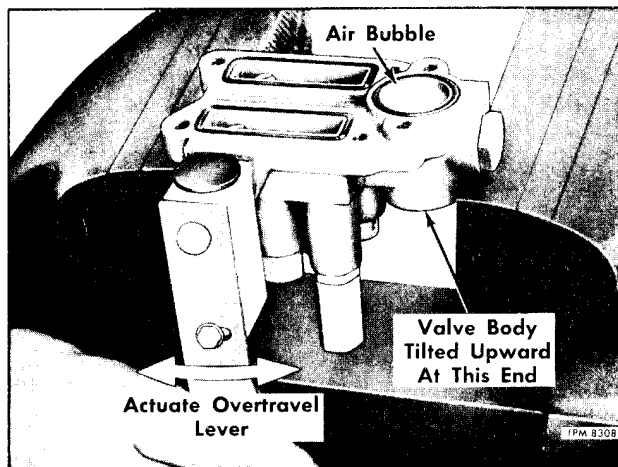
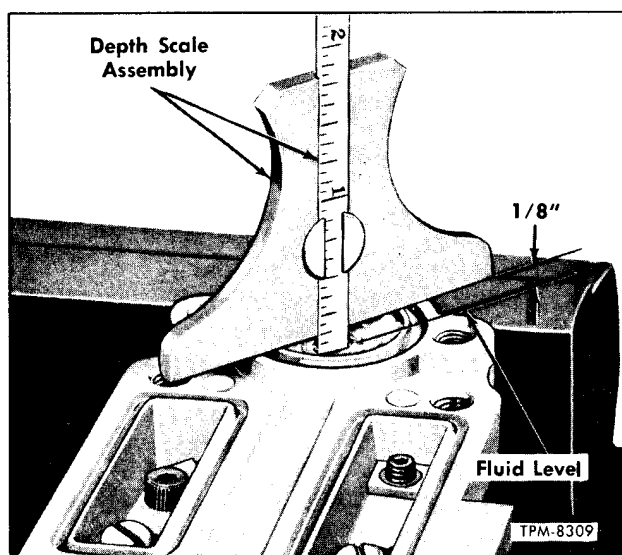

Figure 32—Venting Air From Silicone Fluid
Figure 33—Measuring Fluid Level
2. Pour 5.5 cc \pm 0.25 cc of Silicone fluid (750 Centistokes viscosity at 25°C) into delay piston bore. With valve body tilted slightly as shown in figure 32 carefully operate overtravel lever fore and aft to vent air from fluid. When all air has been expelled from piston pin cavity, check fluid level using depth gauge as shown in figure 33.